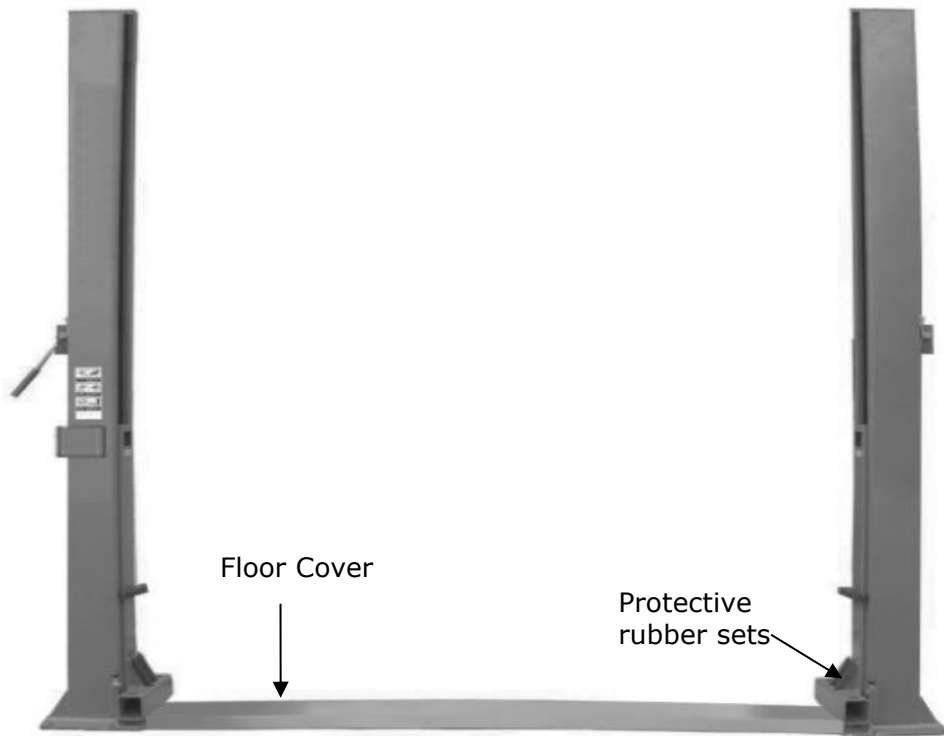

Fig. 22
M. Assemble floor cover and protective rubber sets (See Fig. 22).